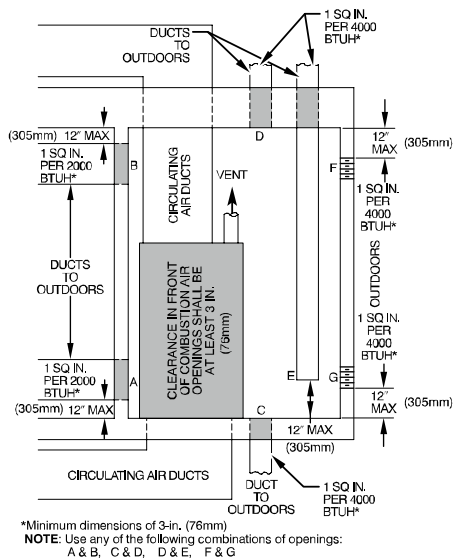

Fig. 6 – Air for Combustion, Ventilation, and Dilution for Outdoors
2. **Fig. 6** illustrates how to provide TWO OUTDOOR OPENINGS, one inlet and one outlet combustion and ventilation air opening, to the outdoors.
- b. Size openings and ducts per **Fig. 6** and **Table 4**.
- c. TWO HORIZONTAL DUCTS require 1 sq. in. (645 sq. mm) of free area per 2,000 BTU/h (1,100 mm²/kW) of combined input for all gas appliances in the space per **Fig. 6** and **Table 4**.
- d. TWO OPENINGS OR VERTICAL DUCTS require 1 sq. in. (645 sq. mm) of free area per 4,000 BTU/h (550 mm²/kW) for combined input of all gas appliances in the space per **Fig. 6** and **Table 4**.
- 1 sq. in. (645 sq. mm) of free area per 3,000 BTUh (734 mm²/kW) for combined input of all gas appliances in the space per Fig. 6 and Table 4.